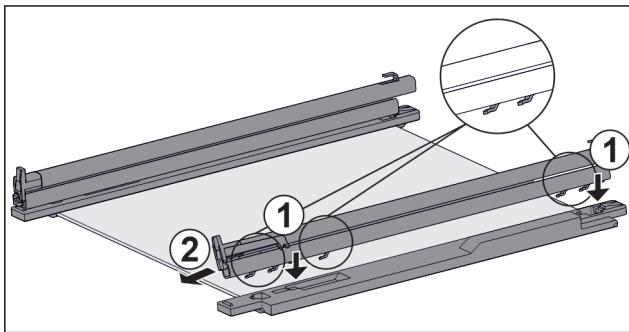

Fig. 121 Glass shelf with rails and retaining parts
- Place rail hooks onto the openings of the **left** retaining part. Fig. 121 (1)
- Push rail forwards. Fig. 121 (2)
- Place rail hooks onto the openings of the **right** retaining part. Fig. 121 (1)